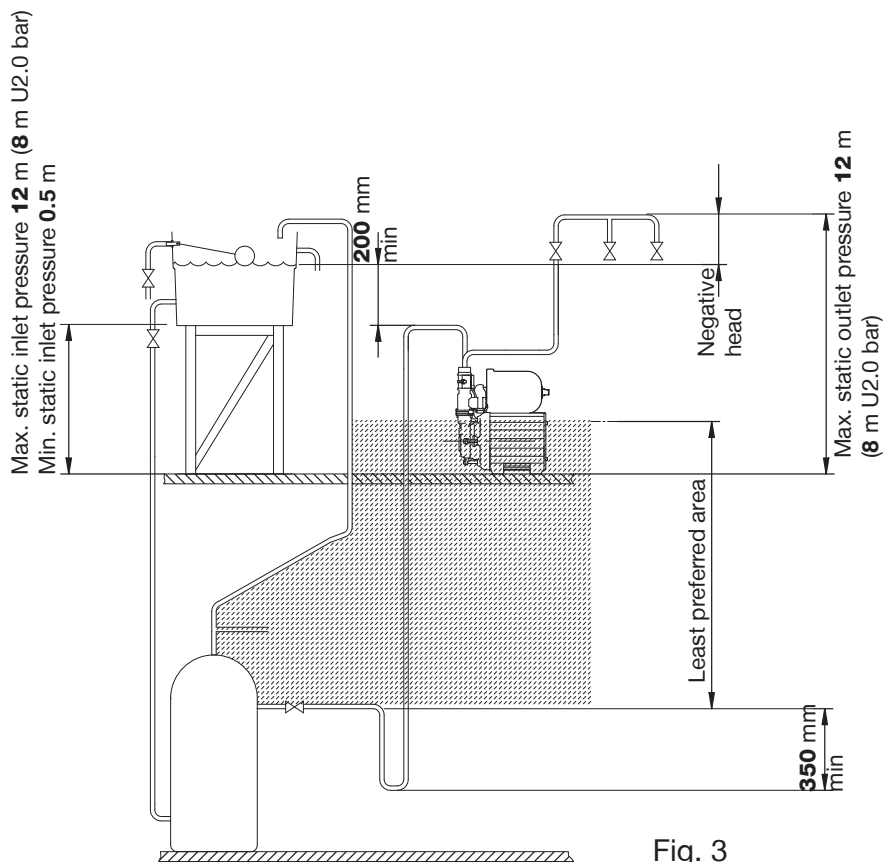

Fig. 3
The use of a Stuart Side Entry (SE) cylinder flange, which should have the addition of an inverted loop (“U” bend) of 350 mm minimum drop before rising to the pump, located as close as possible to the cylinder wall. Please note both flange options listed above are designed to suit 22 mm pipework. If used in ROI a suitable adaptor to 21 mm pipe must be used (not supplied). This will ensure the pump receives an air free supply and the cylinder vents any air up the vent pipe and not the pump feed (Fig. 3).